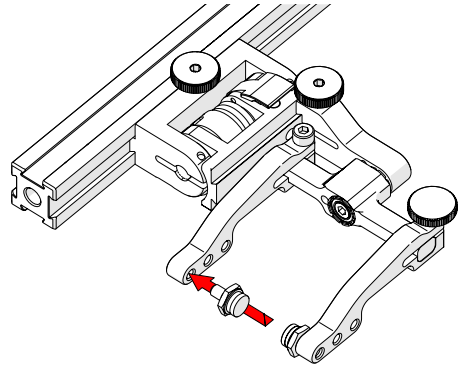

Fig. 170 - Place pivot buttons
4. Using the supplied 3/8 in wrench (Fig. 51), place the pivot buttons (Fig. 170) farthest from the yoke for maximum wedge clearance.